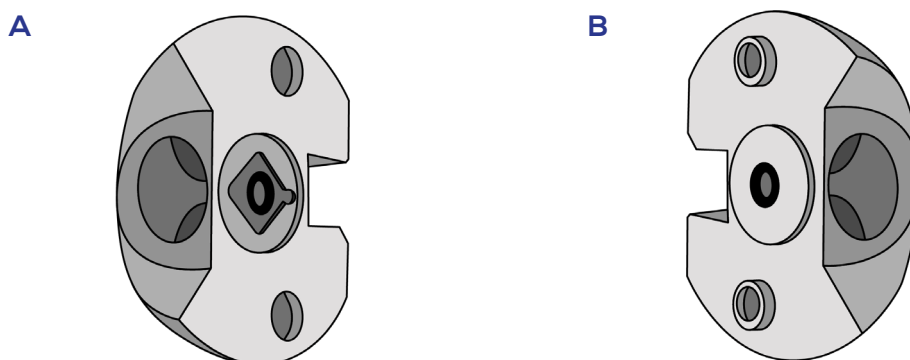

Figure 5. Fluid cell halves. A) Side with square depression for chip; B) Side that fits over the chip once it is in place.
1. Place both halves of the fluid cell on the laboratory bench with the inside surfaces (the side containing the O-ring) facing upwards. One half will have an inset square depression as shown in Figure 5 below. This is the side to place the chip in.